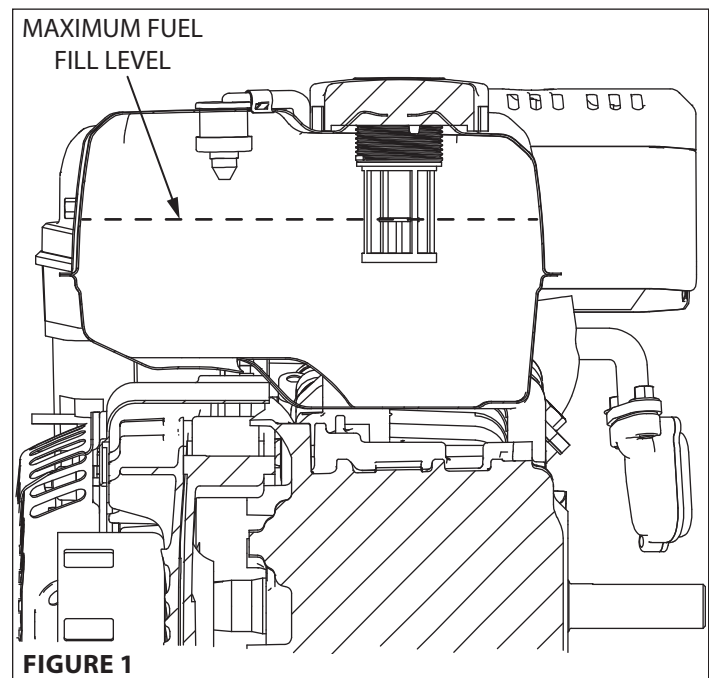

FIGURE 1
3. Fill tank to fuel level limit (3.6L). **SEE FIGURE 1**